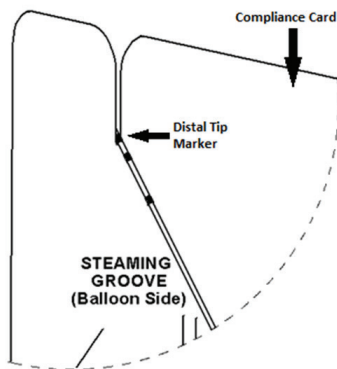

Figure 2 Straight Configuration
4. Place the distal tip marker band at the bottom and inside of the steam groove. (see Figure 2)